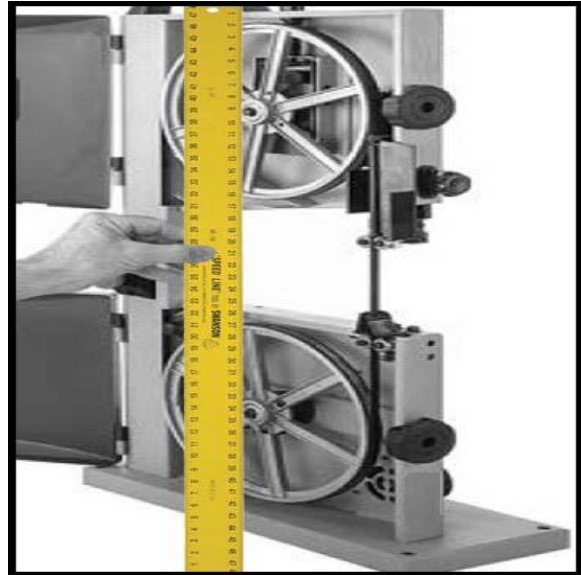

Figure 11
3. With the blade correctly tensioned on the wheels take and hold a straight edge close to the centre point of both wheels to check for coplanar. The straight edge must be long enough to fully extend across the rims of both wheels. See Figure 11.